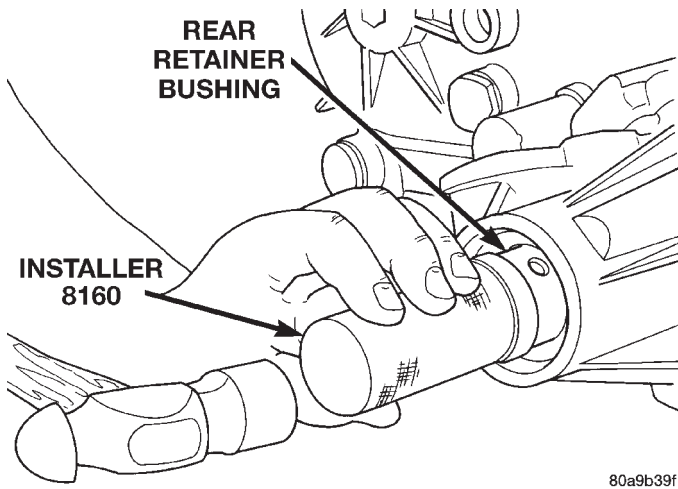

Fig. 9 Rear Retainer Bushing Install
- (1) Clean fluid residue from sealing surface and inspect for defects.
- (2) Position replacement bushing in rear retainer with fluid port in bushing aligned with slot in retainer.
- (3) Using Installer 8160, drive bushing into retainer until installer seats against case (Fig. 9).